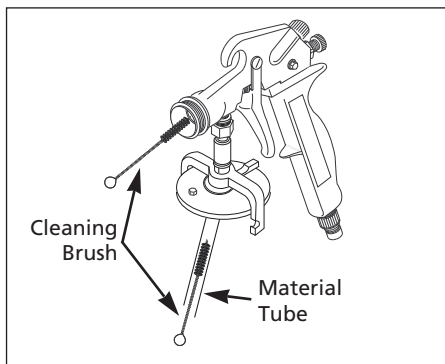

Figure 12 - Cleaning The Material Tube
- Use cleaning brush (saturated with solvent) to clean material tube and nozzle (See Figure 12).